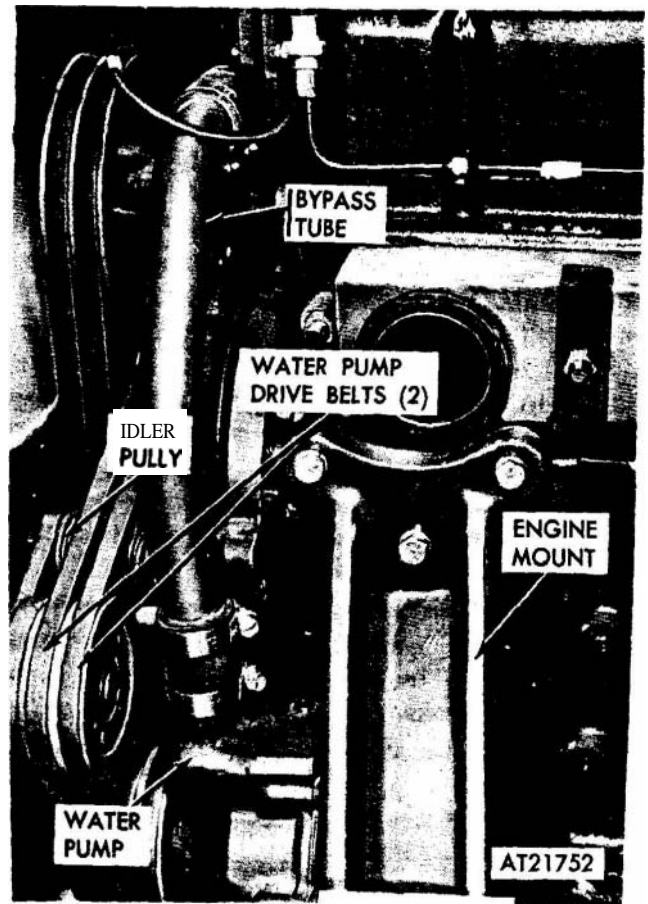

Figure 2-100. Water pump drive belts.
- (4) Depress idler pulley and remove two water pump drive belts from pulley (fig 2-100).
- (5) Remove right rear engine mount (refer to para 2-40a).
- (6) Remove bypass tube and hoses as an assembly by loosening two outer clamps on thermostat housing and water pump.
- (1) Clean gasket mating surfaces.
- (2) Attach water pump and *new* gasket to oil cooler with five bolts and lock washers.
- (3) **Inspect** bypass tube hoses for serviceability. Replace *as* required (fig 2-100).
- (4) Connect bypass tube and hose assembly to thermostat housing and water pump. Secure by tightening upper and lower clamps.
- (5) Attach right rear engine mount (refer to para 2-40b).
- (6) Install water pump belts by depressing idler pulley. Ensure that belts are properly seated (fig 2-100).
- (7) Connect exhaust header pipe to manifold by installing clamp. Alternately tighten two clamps on exhaust header pipe.
(2) Depress idler arm and remove two water pump belts from idler arm pulley (fig 2-100).
(3) Remove idler arm pulley assembly, spring, and shaft from engine by removing mounting screw, lock washer, and washer.
(4) Remove pulley from pulley shaft.